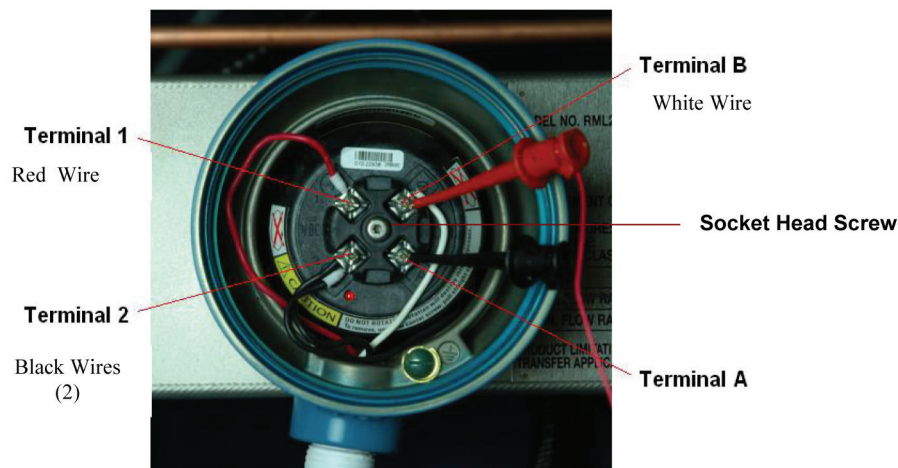
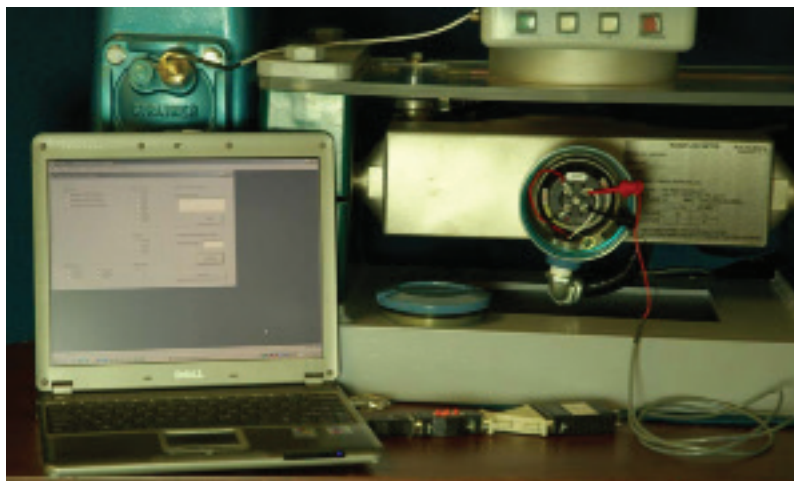

FIGURE 5.1
FIGURE 5.2
3. Check the voltage at terminals 1 (+) and 2 (-) of the meter transmitter to assure the meter is receiving 24 volts, +/-1 volt. See Figure 5.1.
4. Connect the RS-485 Adapter Kit, P/N 600324-000, from your computer to the meter transmitter. See Figure 5.2. Attach the red clip to terminal B, and black clip to terminal A of the meter transmitter (figure 5.1). *** Do not connect clips to terminals 1 and 2 or damage will occur to the hardware ***